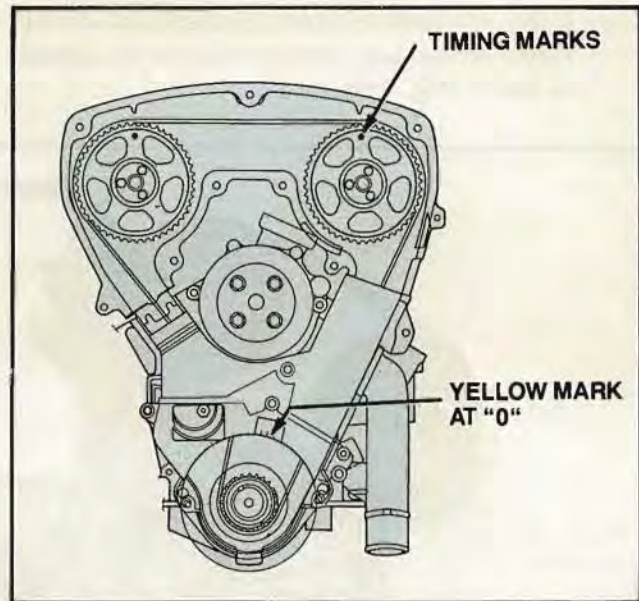

Figure 135. Timing Marks Properly Aligned
- Rotate the crankshaft clockwise and align the white mark of the crankshaft pulley with the zero mark on the No. 1 timing belt cover, and confirm that each timing mark of the camshaft pulley aligns with that of the No. 4 timing belt cover (Fig. 135). If the marks do not align, remove the timing belt and reinstall it, being careful to follow procedures exactly.